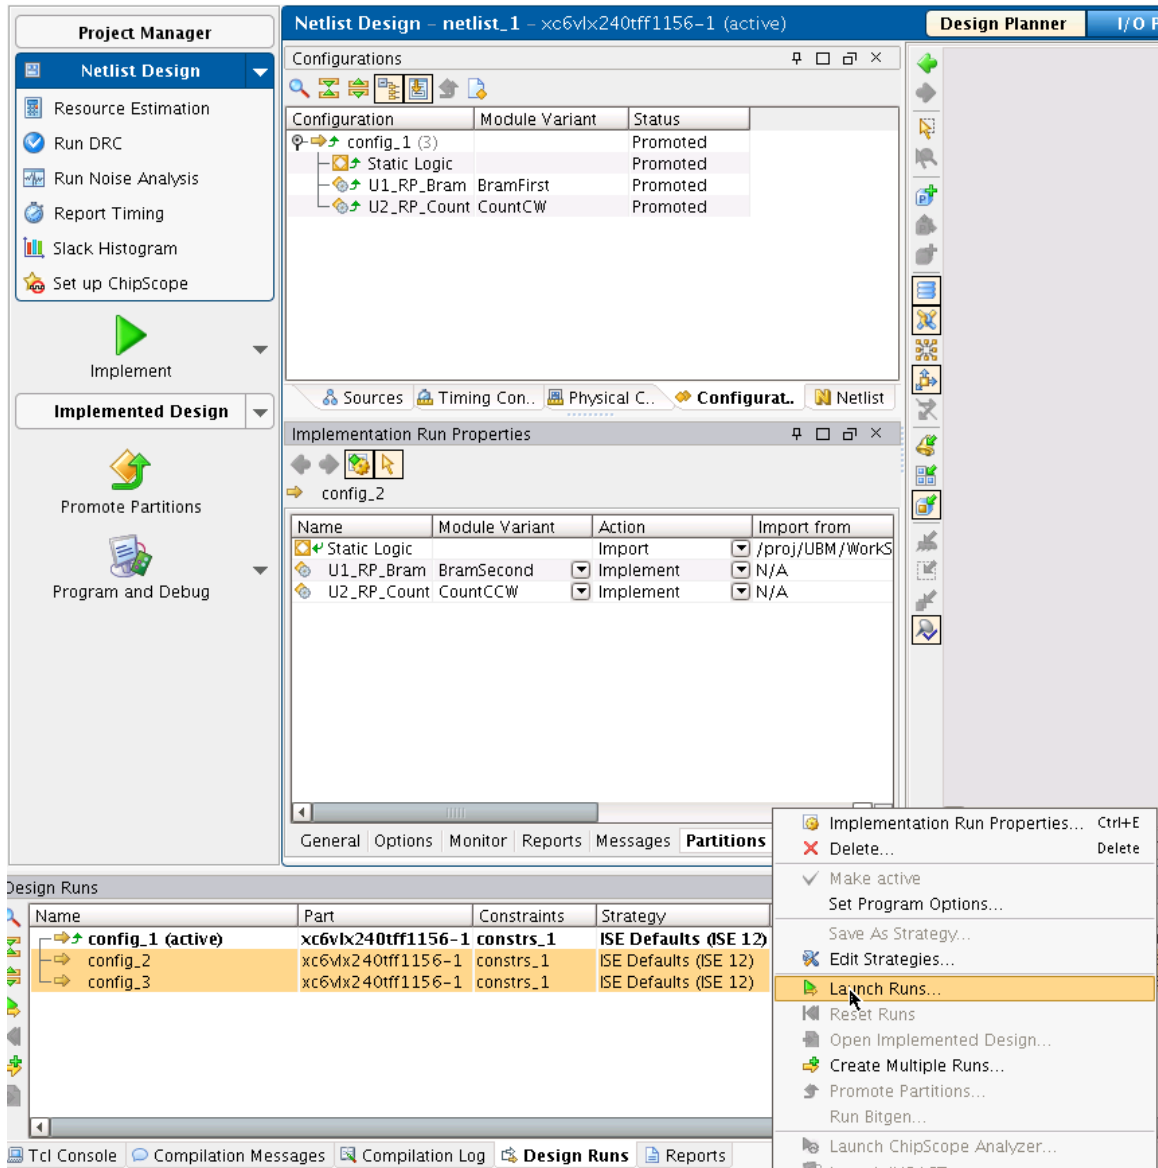

Figure 28: Launch Runs
- 10-1-15.** Launch a configuration by right-clicking, and choosing **Launch Runs**. Note that if you have multiple new configurations, they can be launched in parallel (on multiple processors, if available) because the results are not dependent on each other like they were for config_1 (Figure 28).